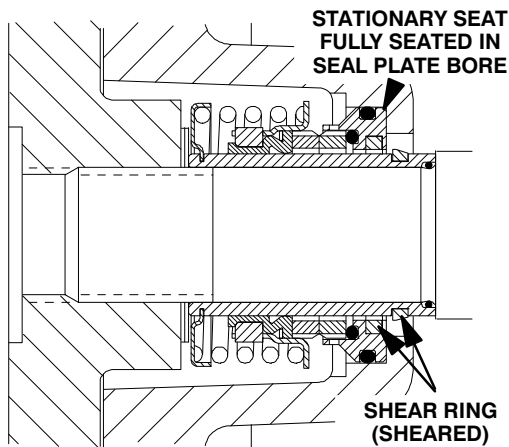

**Figure 6. Seal Partially Installed**
Clean and inspect the impeller as described in **Impeller Installation and Adjustment**. Install the full set of impeller shims (3) provided with the seal, and screw the impeller onto the shaft until it is seated against the seal (see Figure 6).